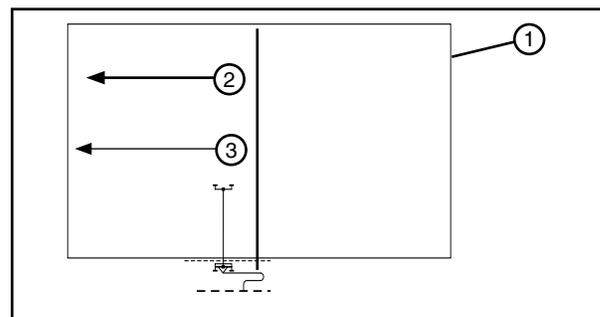

Figure 39-4 1. Field 2. Direction of Travel 3. Wet or Dry
8. At the middle of the field the system direction is reversed. Set the percentage timer and run the system either wet or dry back to the original end of the field. See Figure 39-4.